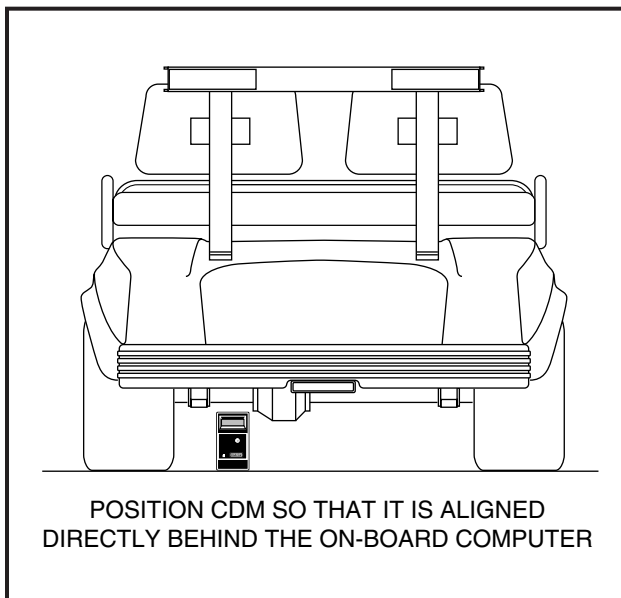

FIGURE 17-12
2. Position the CDM under the rear of the vehicle so that it is aligned directly behind the on-board computer (**Figure 17-12, Page 17-23**). Make sure the CDM's infra-red LED receiver is pointed at the on-board computer's LED, and that there is a clear path between them (**See NOTE at top of Page 17-23**).